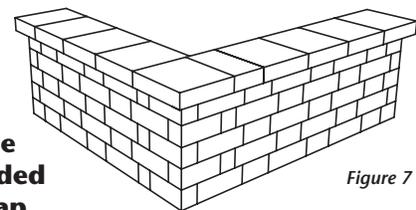

Figure 7
- The wall can be capped with the Cambridge 13-inch cap stone, which will allow a 2-inch overhang on each side of the double-sided wall. See Figure 7.